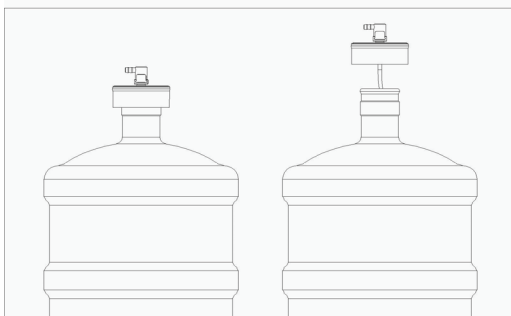

Figure 1
4. Put the hose inside the water bottle and place the water bottle cap firmly over the mouth of the water bottle. (Figure 1)